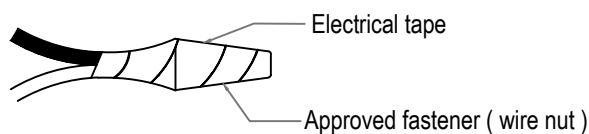

FIGURE-2
5. Fasten the white fixture lead to the white wire in the junction box. Fasten the wires together with an approved fastener (wire nut). Starting about 1" below the fastener, tightly wrap the connection with electrical tape so that the connections seals the end of the fastener. See figure-2.